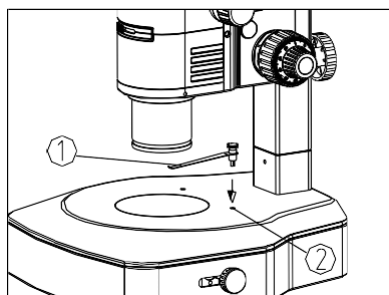

Fig. 10
- 2) Insert the clip① into the two holes of the base, as the arrowhead direction shown in the figure. (See Fig. 10)